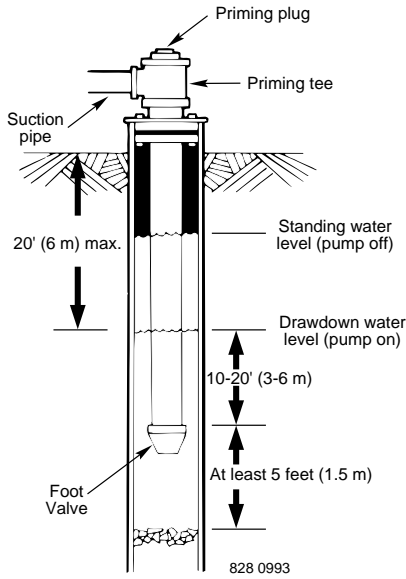
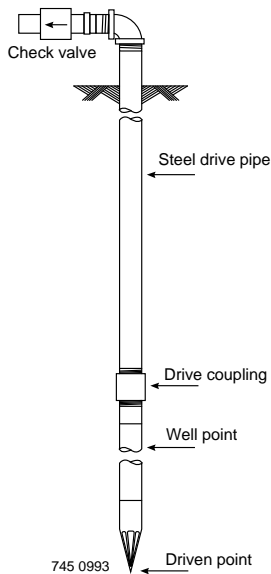

Figure 5 - Cased/Dug Well Installation
Figure 6 - Driven Point Installation
- Step 5. When using a foot valve, a priming tee and plug as shown in Figure 5 are recommended.
Step 1. Connect the suction pipe to the drive point as illustrated in Figure 6. Keep horizontal pipe run as short as possible. Use Teflon tape on male pipe threads. Multiple well points may be necessary to provide sufficient water to pump.
Step 2. To aid priming on well point installations, install a line check valve as shown in Figure 6. Be sure check valve flow arrow points toward pump.
NOTICE: For long horizontal pipe runs, install a priming tee between check valve and well head as shown in Figure 5. For driven point installations, install a check valve as shown in Figure 6. Be sure check valve flow arrow points **toward** pump.